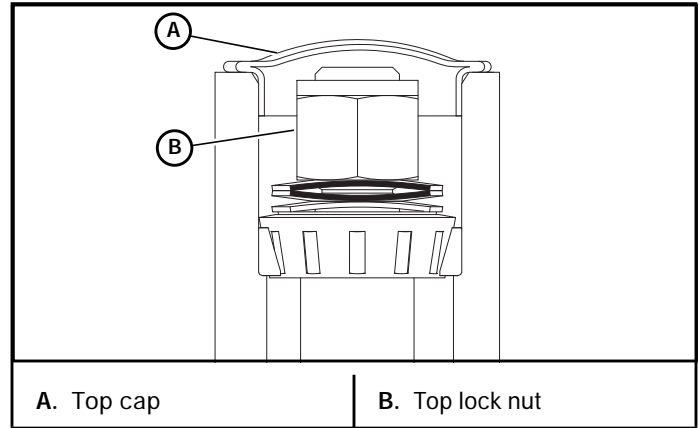

Figure 6-23
3. Remove the top cap and the top lock nut. Figure 6-23